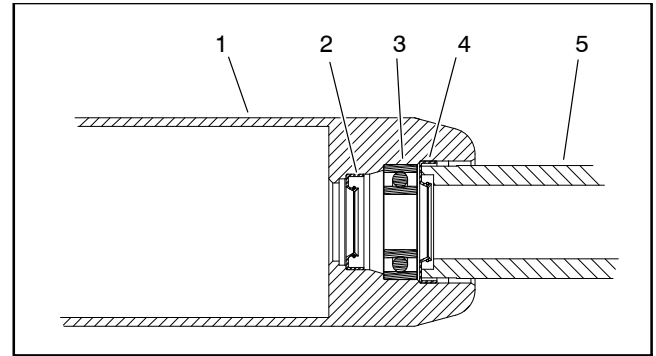

Figure 51
C. Install first outer seal into roller tube making sure that seal lip (and garter spring) faces end of tube. Use bearing/outer seal tool (see Special Tools) and soft face hammer to lightly seat seal against roller shoulder (Fig. 51). Make sure that bearing still freely rotates after seal installation.